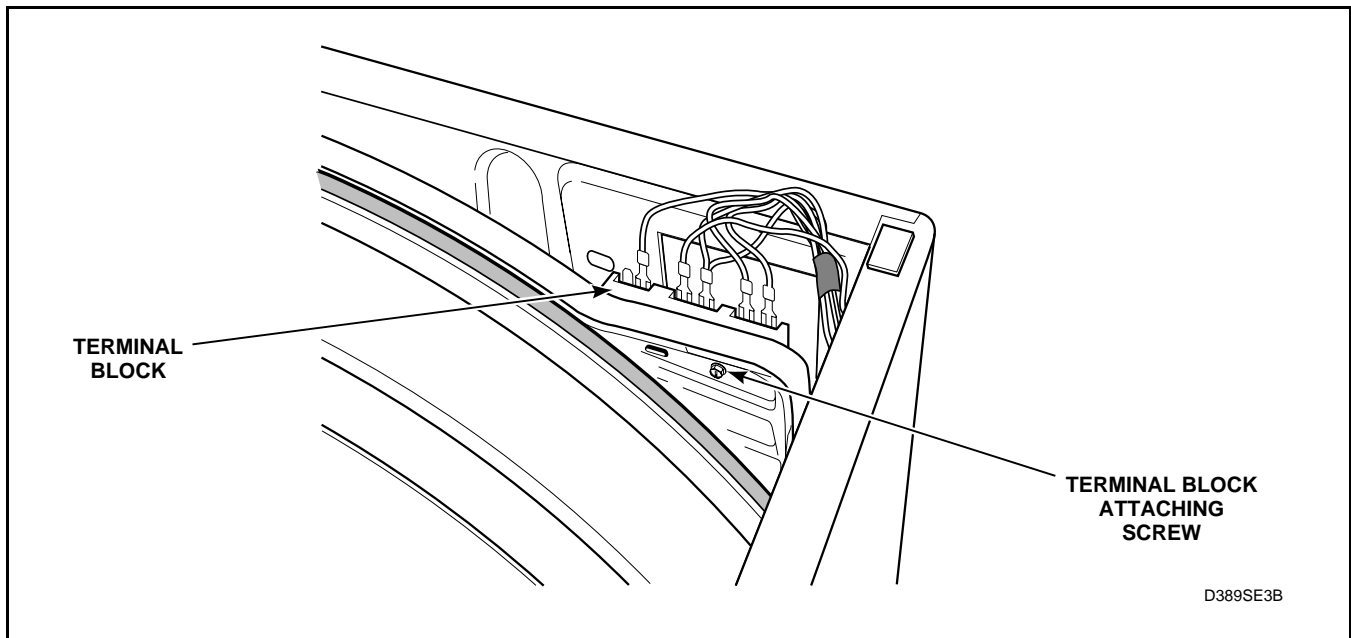

Figure 40
- (3.) Remove screw holding terminal block to rear bulkhead. See *Figure 40*.
- (11.) Remove screw holding terminal block and shield to rear bulkhead. See *Figure 40*.
- (4.) Remove two screws from each rear cabinet top hold-down bracket. See *Figure 40*.